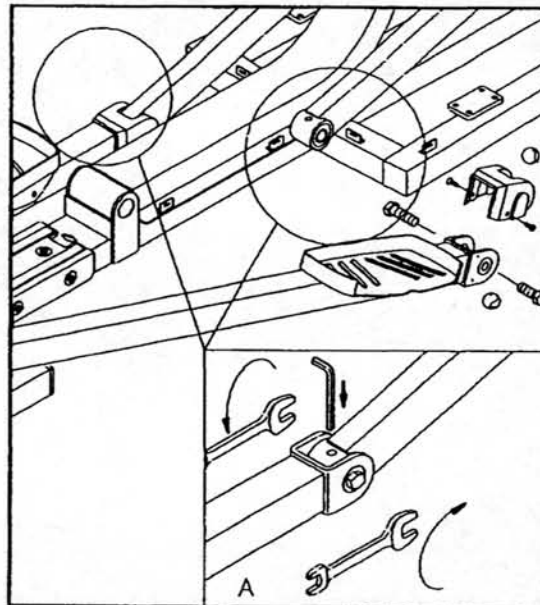

Fig.21-6
2. Firstly, install the REAR HORIZONTAL LINKAGE to the FRONT HORIZONTAL LINKAGE by tightening the screw. Using a Hex Allen Wrench to fix left side of screw and use another Wrench to turn the screws from the LINKAGE in counterclockwise direction (see fig 21-6 and the enlarged fig A).
Lastly, secure the left side of STAIR ARM JOINT COVER by screwing (see fig 21-6. ①) .